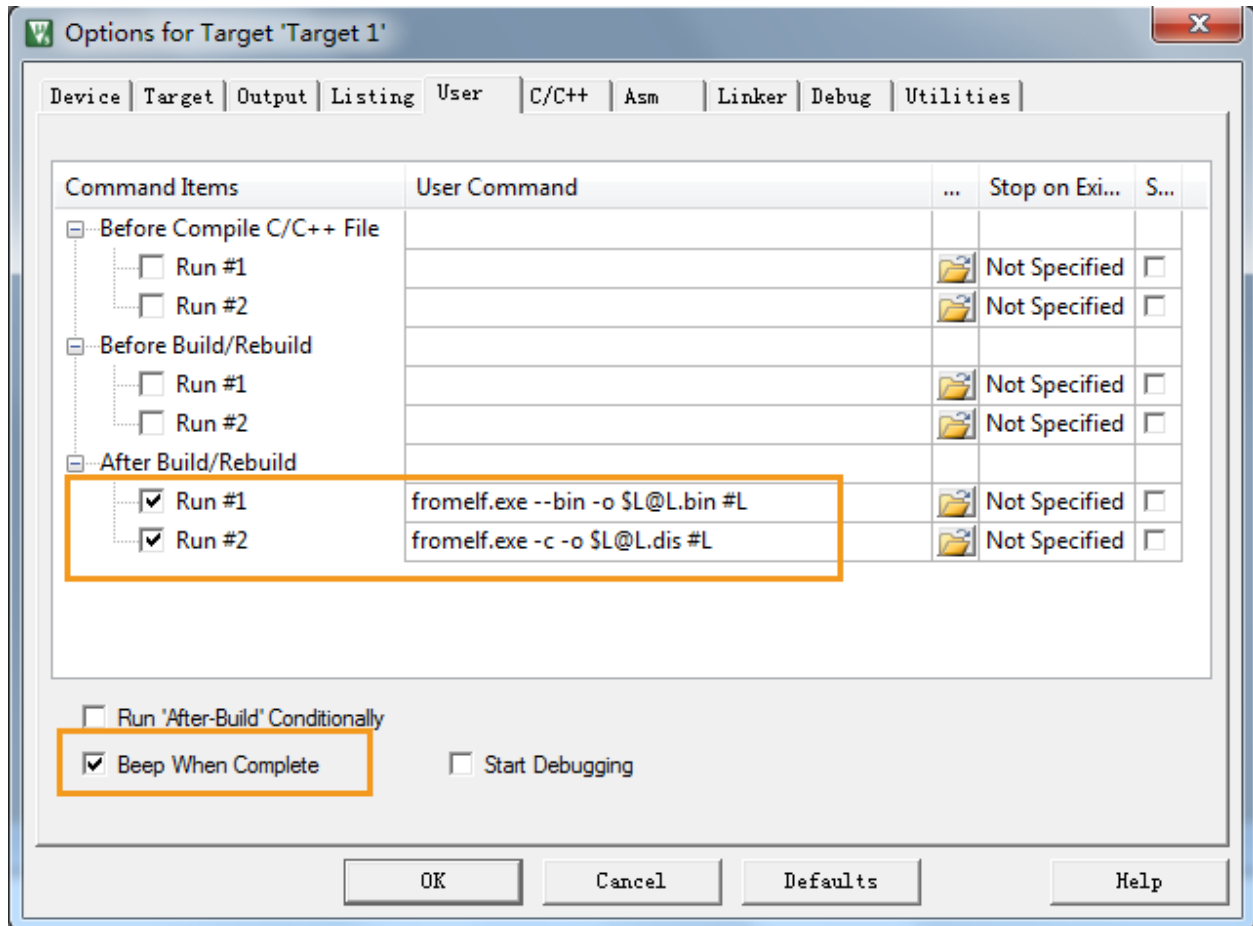

Figure 54. User defined configurations
- 2) Navigate to **User** tab, select **Run #1** and **Run #2** under **After Build/Rebuild**, fill **fromelf.exe --bin -o \$L@L.bin #L**, and **fromelf.exe -c -o \$L@L.dis #L** in **User Command** for **Run #1** and **Run #2**, then select **Beep When Complete**, as shown in Figure 54.